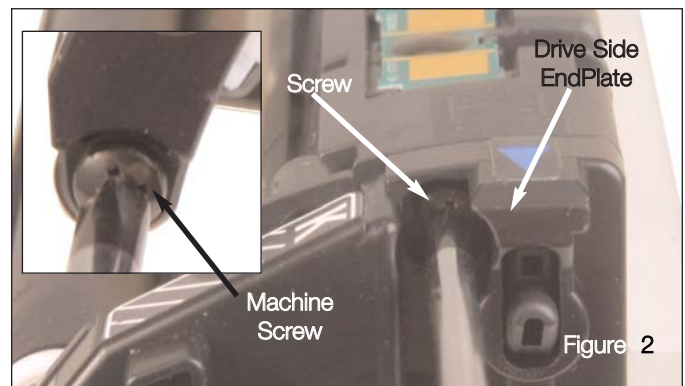

Figure 2
- b. Remove the two screws from the end plate. See Figure 2.